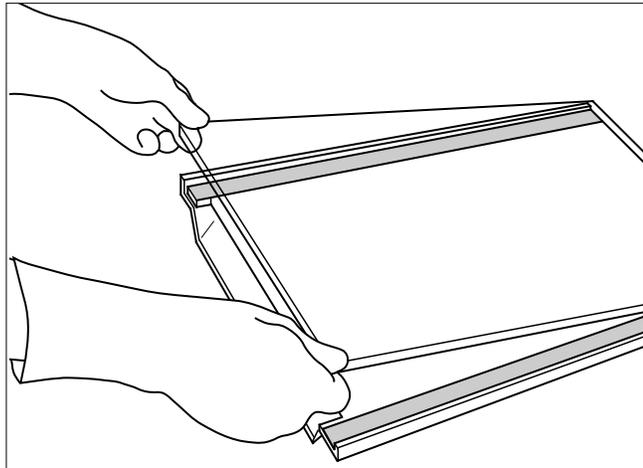

Fig. 4.1. Assembling glass plate sandwich.
2. Place the IPC flat on the bench with glass plate facing upward (Figure 4.1).